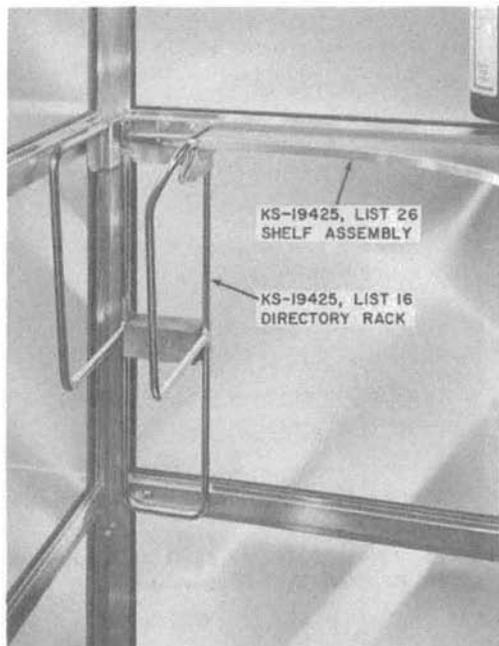

Fig. 11—KS-19425, List 16 Directory Rack and KS-19425, List 26 Shelf Assembly
- (b) *KS-19425, List 16 directory rack and KS-19425, List 26 shelf assembly. (Fig. 11).*